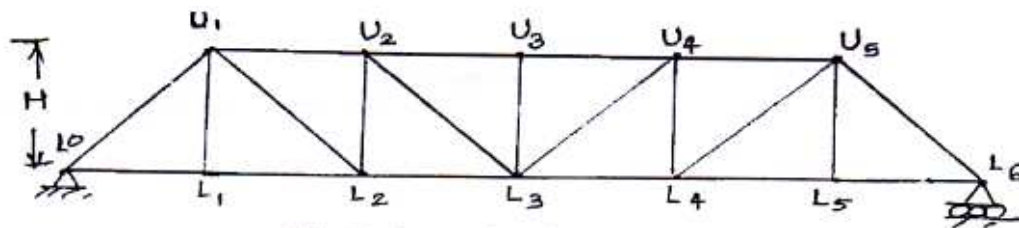

Fig.7 6panels @4m each
**Q7)** Using channel sections, design the members  $U_2-U_3$ ,  $U_2-L_3$  and  $U_3-L_3$  for the railway steel truss bridge shown in Fig. 7. Also draw a neat sketch of the connection of members at  $U_3$  [25]
**Q8)** For the railway bridge shown in Fig. 7, design the top and bottom lateral bracing with the given data. The rails are 850 mm above the c.g. of bottom chord. The chord members are 500 mm deep and 600 mm wide. The end posts are 475 mm deep and 475 mm wide. The web members are 475 mm deep and 240 mm wide. [25]